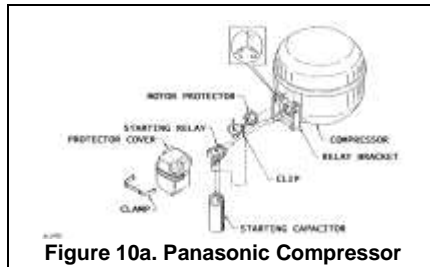
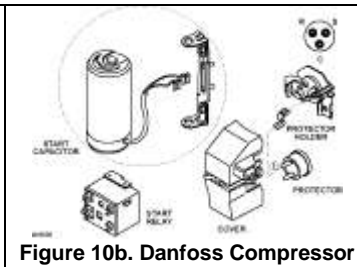
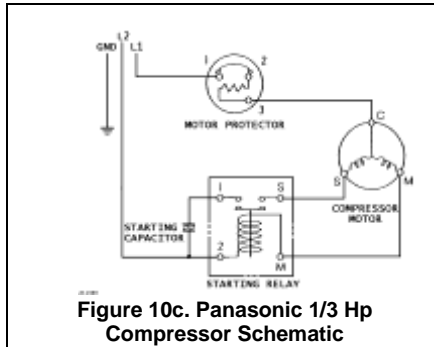
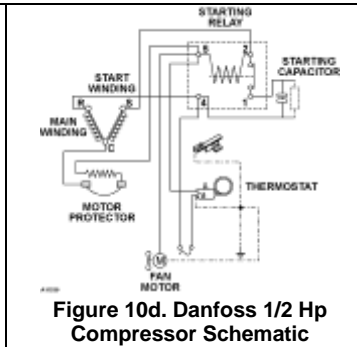

Figure 10a. Panasonic Compressor
Figure 10b. Danfoss Compressor
Figure 10c. Panasonic 1/3 Hp Compressor Schematic
Figure 10d. Danfoss 1/2 Hp Compressor Schematic
- Panasonic 1/3 HP** - Unscrew lead terminals and remove relay from compressor. (Figure 10a and Figure 10c).
- Danfoss 1/2 HP** - Remove relay from compressor. (Figure 10b and Figure 10d).
4. **Check compressor windings** using ohmmeter. Refer to TABLE 2, Figure 10a, Figure 10b, Figure 10c and Figure 10d..